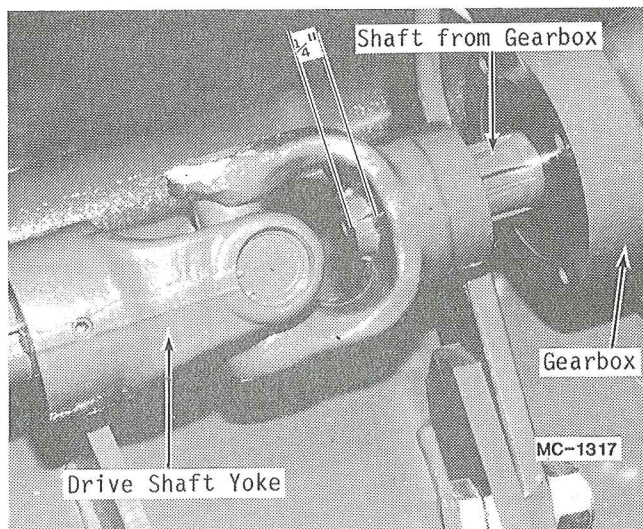

Figure 20
7. Slide the output shaft with spacer and locking collar out against the bearing. Be sure the shaft from the gearbox extends 1/4" inside the yoke on the output shaft. Adjust locking collar if necessary. (See Figure 20.)